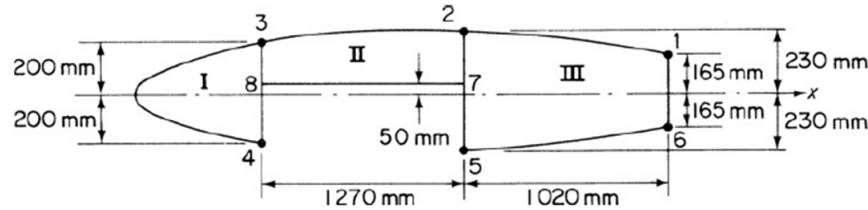

Figure 6
- (b) The wing section shown in Figure 6 has been idealized such that the booms carry all the direct stresses. If the wing section is subjected to a bending moment of 300 kNm applied in a vertical plane, calculate the direct stresses in the booms. Boom areas: $B_1 = B_6 = 2580 \text{ N/mm}^2$ $B_2 = B_5 = 3880 \text{ N/mm}^2$ $B_3 = B_4 = 3230 \text{ N/mm}^2$. [BL: Apply| CO: 5|Marks: 7]